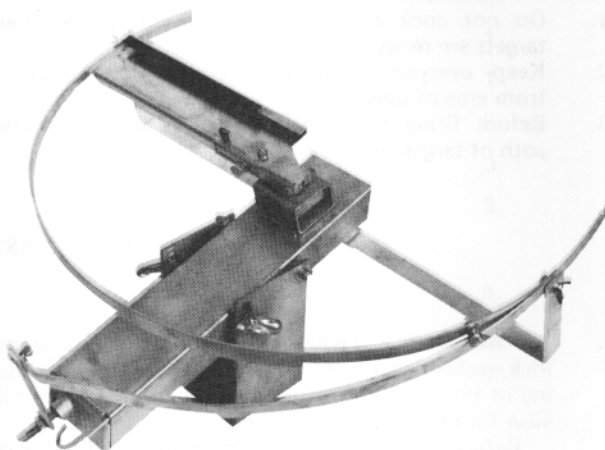

Fig. 5
- D. Before tightening wing nuts, make sure that front perimeter ring can be rotated to rear for transportation and storage (see Fig. 5).
- E. After assembling perimeter ring to trap and before attempting to cock carrier, make sure that sear (47) rotates freely by using the following procedure: Pull and hold trigger rod (63) rearward while manually rotating sear clockwise as far as possible. Release sear, allowing it to snap back against inside of frame. If this does not occur, refer to troubleshooting section VII, page 5. See "Carrier fails to latch in cocked position".